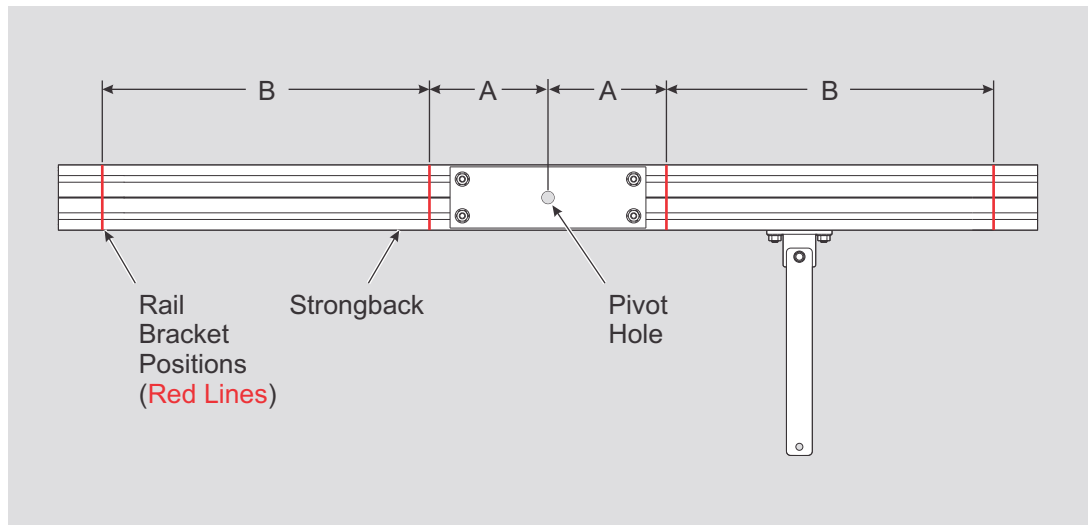

Figure 1-1: Measuring Rail Bracket Positions on Strongback
- First mark the “A” dimension on either side of the Strongback Pivot Hole. From the center of the Pivot Hole, measure outward on both sides of the Pivot Hole and draw a line establishing dimension “A”. (See Figure 1-1)